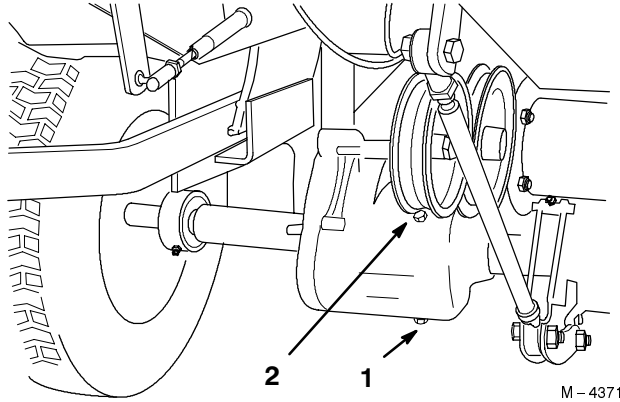

Figure 38
2. Clean area around drain plug and place a drain pan below drain plug on axle (Fig. 38).
3. Remove drain plug and allow oil to flow into drain pan (Fig. 38). After oil is drained, reinstall drain plug.
4. Remove fill plug and fill to plug level with SAE EP-90 wt. oil (approximately 14.9cl (44 oz.)) (Fig. 38).